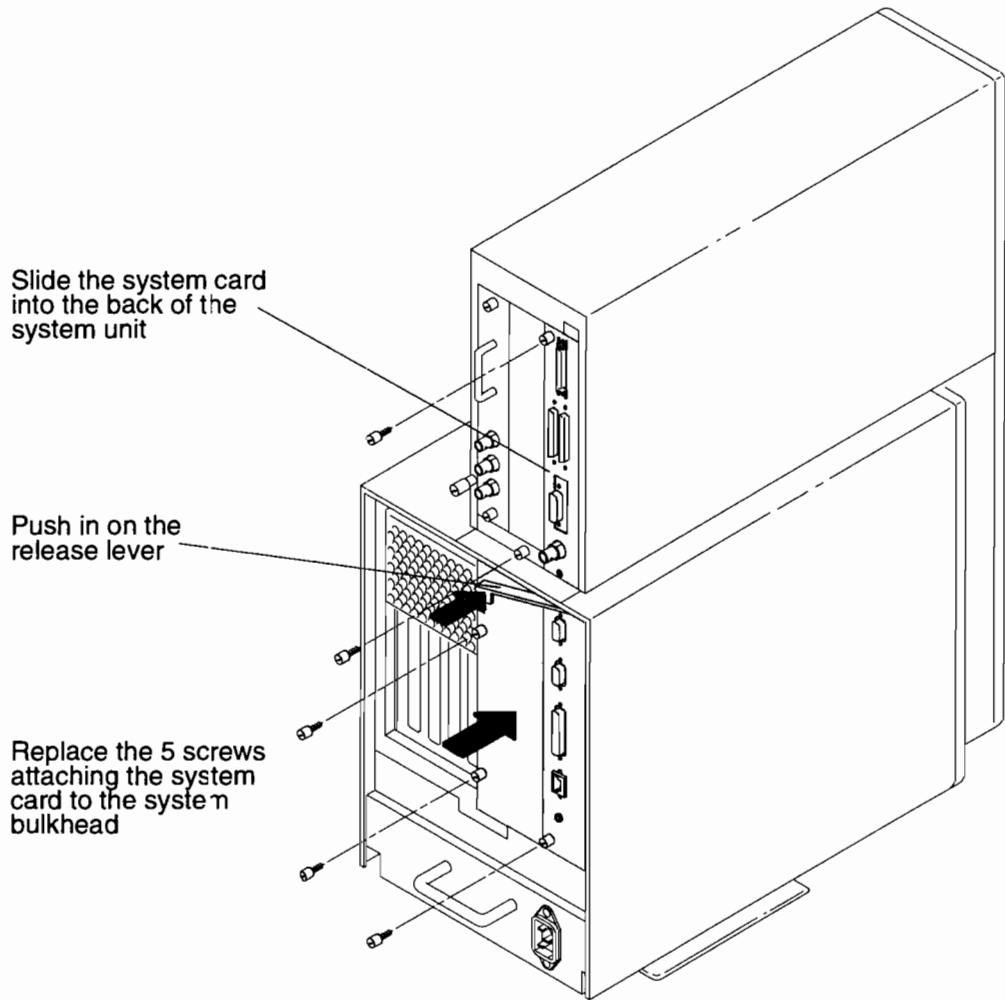

Figure B-4. Restoring the System Card (system without FDDI installed)
1. Slide the system card into the back of the system unit, as shown in Figure B-4.
3. Use a straight slot screwdriver to replace the five screws that hold the system card to the system bulkhead, as shown in Figure B-4.